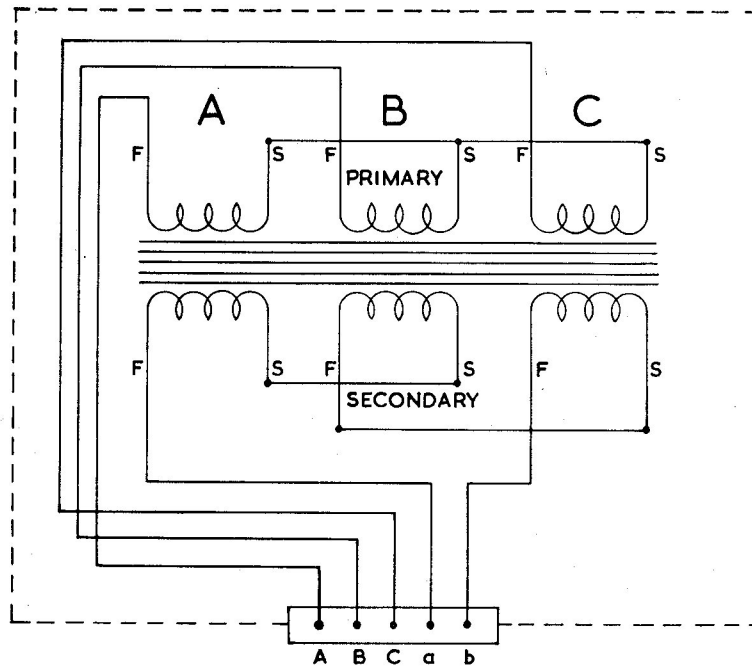

Fig. 2. Circuit diagram
3. Reference should be made to the circuit diagram shown in fig. 2. The primary winding of transformer A consists of 167 turns of 20 S.W.G. Lewmex "M" wound around the Unisel laminated core in three layers. The primary windings of transformers B and C are also of Lewmex "M" but consist of 167 turns of 22 S.W.G. wound around the core in three layers. The secondary windings of transformers A, B and C are of 83 turns of Lewmex "M" wound around the outside in three layers. The leads from the transformers are brought out through saturated glass sleeving.